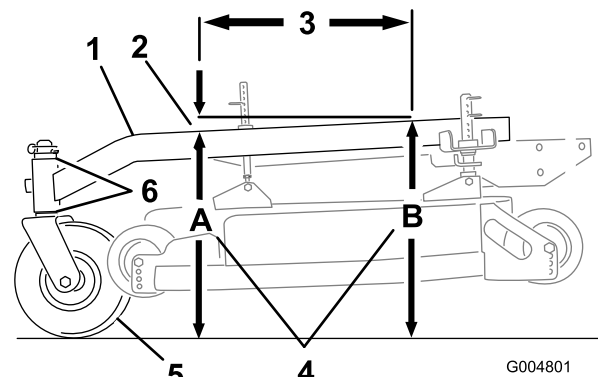

Figure 69
The carrier frame must have a pitch between 3 mm (1/8 inch) to 9 mm (3/8 inch) over the length of 61 cm (24 inches) on the carrier frame (Figure 69).
1. Measure out 61 cm (24 inches) on the carrier frame (Figure 69).
2. Measure carrier-frame height at location **A** (Figure 69).
3. Measure carrier-frame height at location **B** (Figure 69).
4. The height at location **A** must be 3 to 10 mm (1/8 inch to 3/8 inch) lower than location **B** (Figure 69).
5. If the carrier frame is not correct, move caster spacers to make it an 3 to 10 mm (1/8 inch to 3/8 inch) pitch (Figure 69).